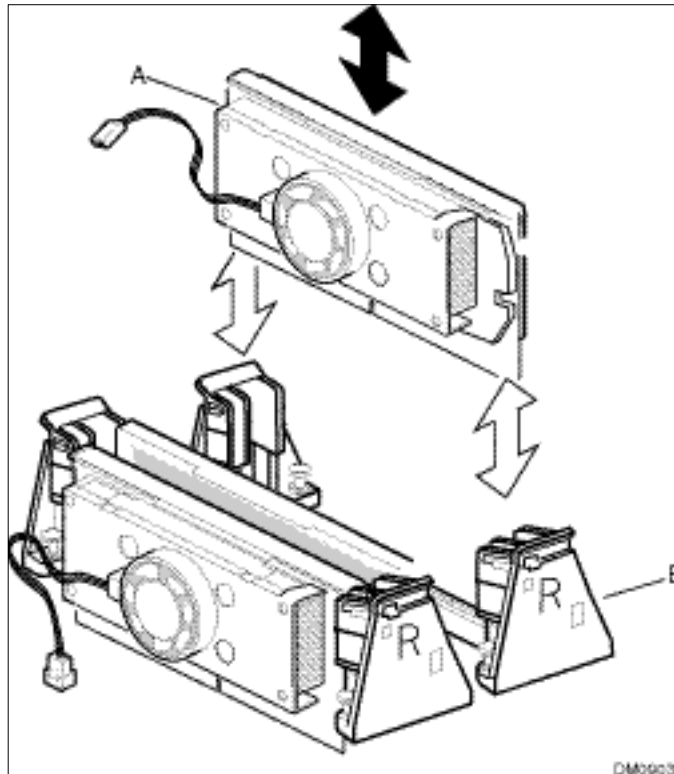

Figure 5. Installing a Processor
3. Carefully pull back the tab of the retention mechanism (B in figure 5) with your left hand until the processor can be rotated out of the slot. With your right hand, grasp the processor on the side closest to the retention mechanism tab you are pulling back on, and rotate the one side of the processor out of the slot. Once that side is free, you can pull the other side out of the slot.